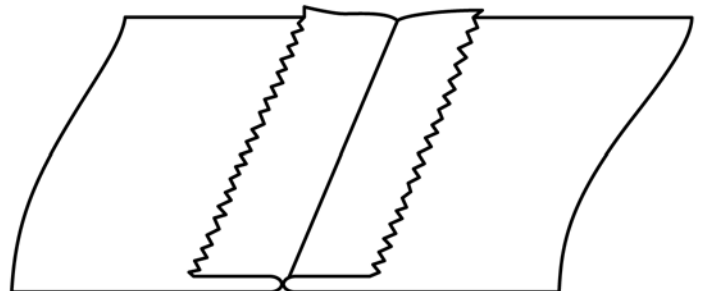

FIG. 14 Pinked Seam Finish from Back Side of Material
**pinked seam finish**, *n*—*in home sewing*, a seam finish in which a zigzagged or scalloped cut edge is produced. (Compare **stitched and pinked seam finish**.) (See Fig. 14.)